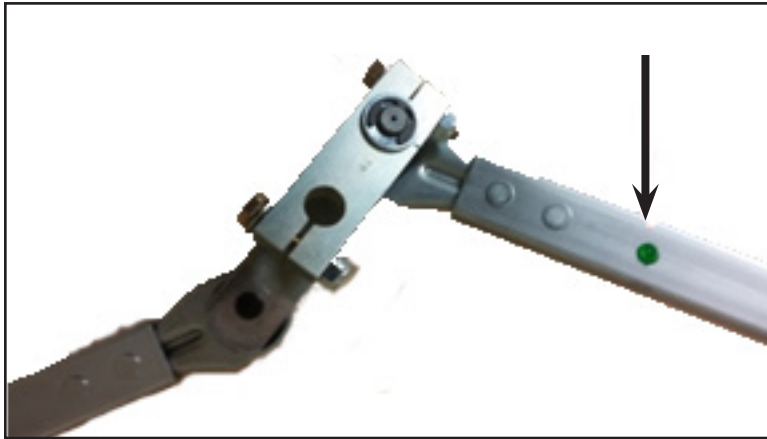

Figure 2 - Confirm Linkage Has a Green Dot
- 1.1. Ensure the replacement linkage has a green dot. See Figure 2. This is to identify that the linkage is welded on the back side, which is difficult to see after installation.